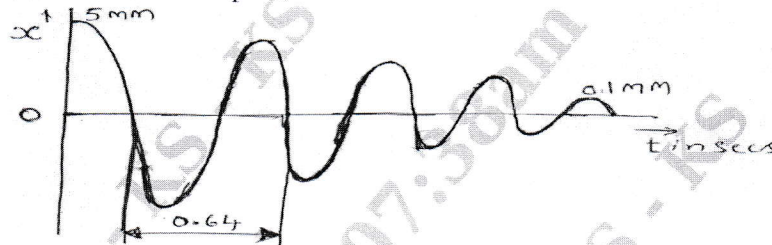

Fig.Q.1(a)
- 1 a. Free vibration records of one tonne machine mounted on an isolator is shown in Fig.Q.1(a). Determine: